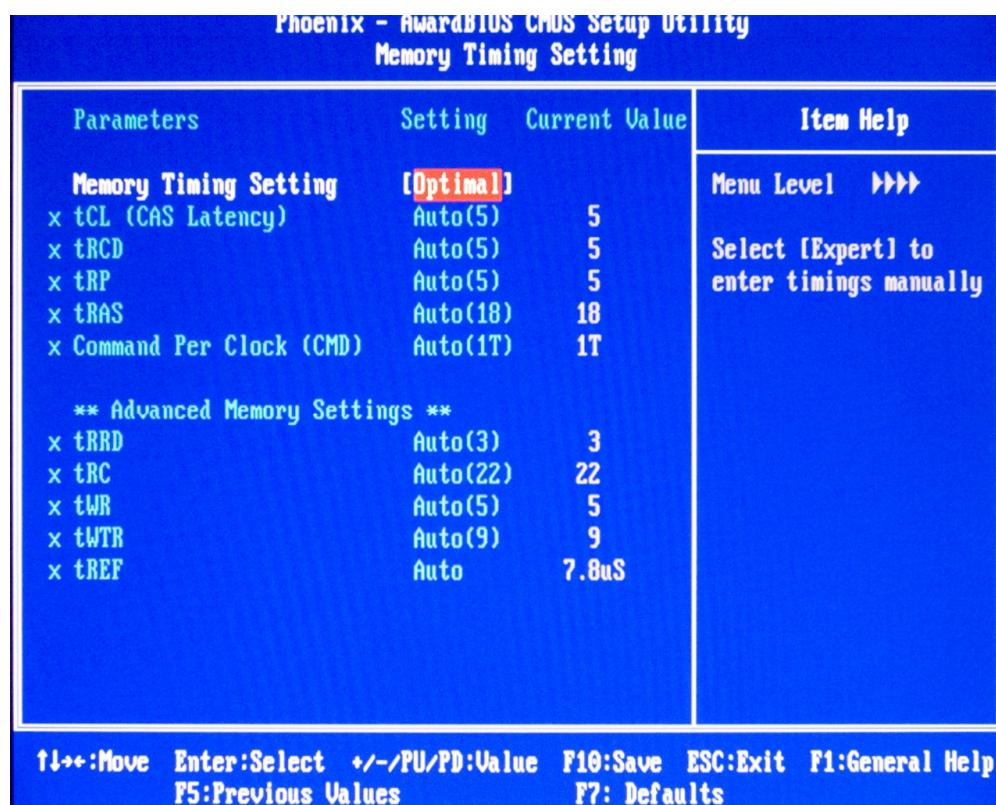

Figure 9. Memory Timing Settings
5. Change the Memory Timing Setting option to Expert. This allows you to individually adjust the memory's timing properties as shown in Figure 9. The following is a list of the options available to you: